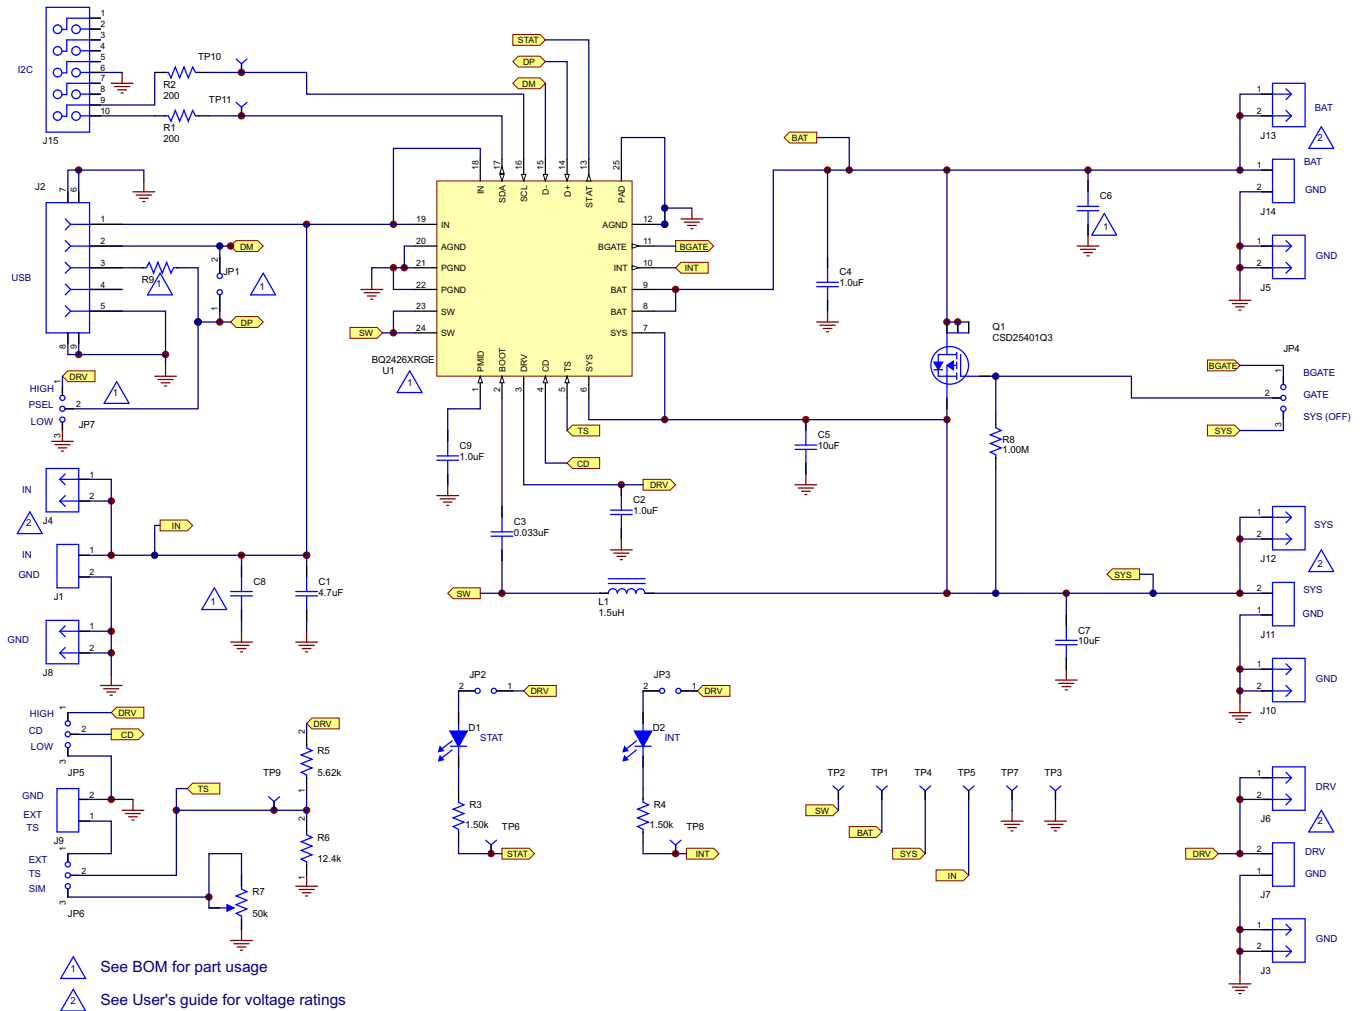

Figure 1. bq24260, bq24261, bq24262EVM Schematic
The bq24260, bq24261, and bq24262 EVM schematic is shown in Figure 1.
3. If BAT_Load as shown in Figure 1 is used, connect PS #2 set to approximately 3.6 V to the input side (PS #2±) of BAT_Load, then turn off PS #2.